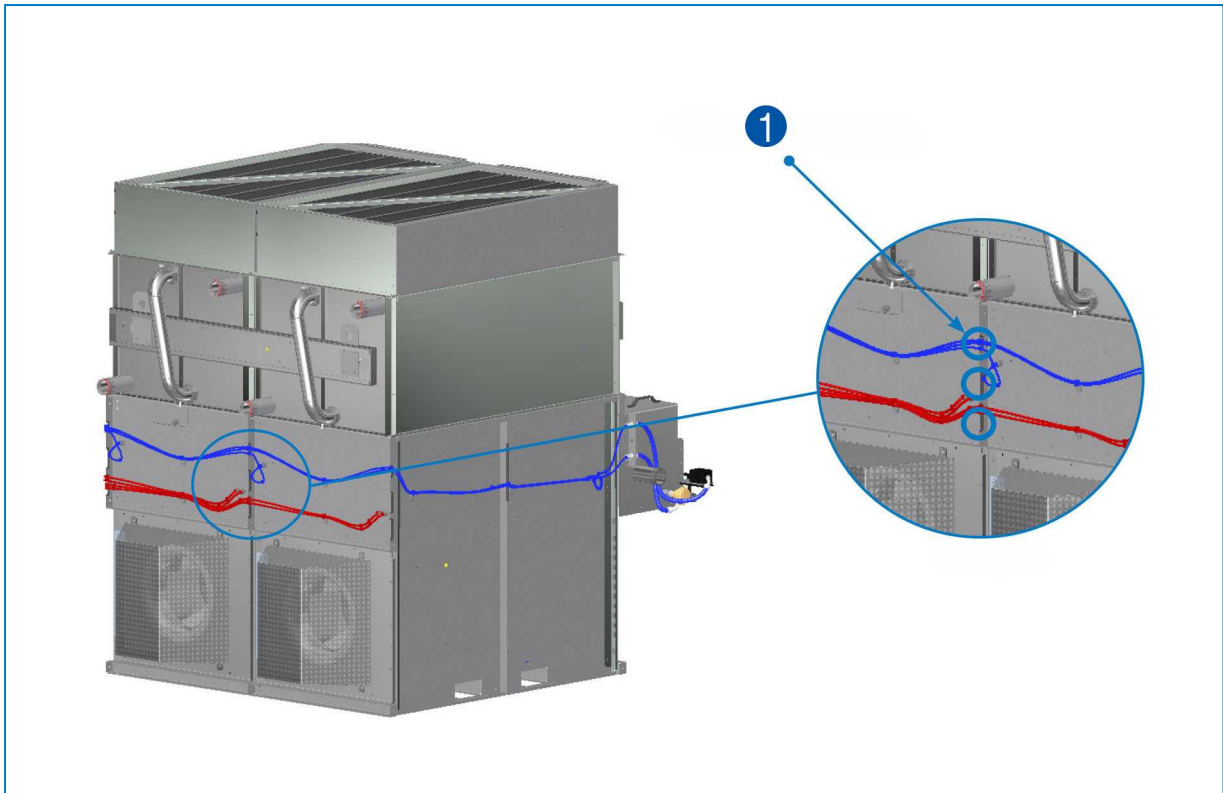

Fig. 16 Fan power wire (red wire) - 1. Wire routing notches
4. Route the fan power wire through the third notch from the top and wire mount, then secure the wire with zip ties to the unit. The fan power wire may use the second (middle) notch on NXF-0603 units when needed. See figure 16.